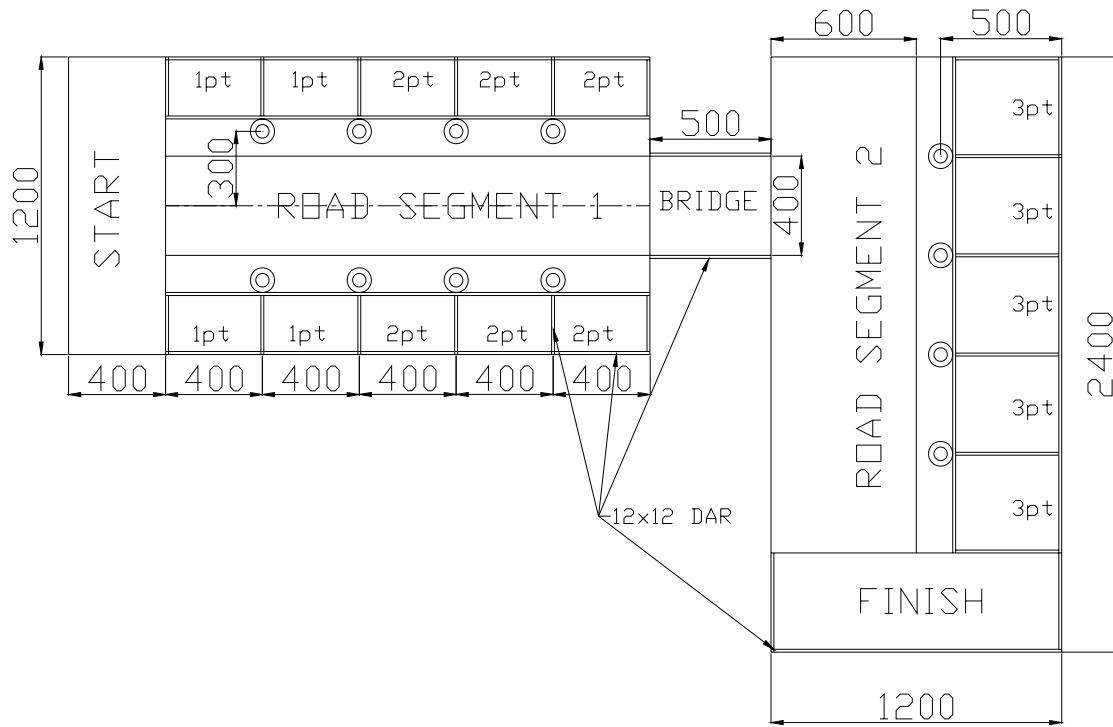

FIGURE 1 - PROJECT "ABC" COMPETITION TRACK CONCEPT
8. The competition track modelling a horizontal tree lined “road” and the adjacent fields shall consist primarily of two sheets of Medium Density Fibreboard (MDF). The Start Area and first road segment will be on a board of nominal dimensions 2400 x 1200 x 18 mm. The second road segment and Finish Area will also be on a board of nominal dimensions 2400 x 1200 x 18 mm. The boards will be placed perpendicularly in an L shape (see Figure 1) but separated by a 500 mm long bridge crossing a hypothetical river. The bridge will lie in the same horizontal plane as the road segments and also be made from MDF.
11. Line markings will be scribed and highlighted with a fine tip permanent marker. The start and finish areas will be marked at the respective ends of the track. These areas are nominally 1200 x 400 in area (see Figure 1). The “road” on the first road segment will be marked as a lane 400 mm wide down the centre of the track. The “road” on the second road segment will be marked as a lane 600 mm wide on the right hand side of the track with the edge of the road being the edge of the sheet.
15. Fields for planting (15 in total) between but beyond the three tree lines will be fenced with nominally 12 x 12 DAR (Dressed All Round) timber strips as shown in Figure 1. The strips will be mounted by nails or screws on the top surface of the track. The road side longitudinal fences will butt with the outer edge of the containment collars.
field value = 1, 2 or 3 as defined in Figure 1